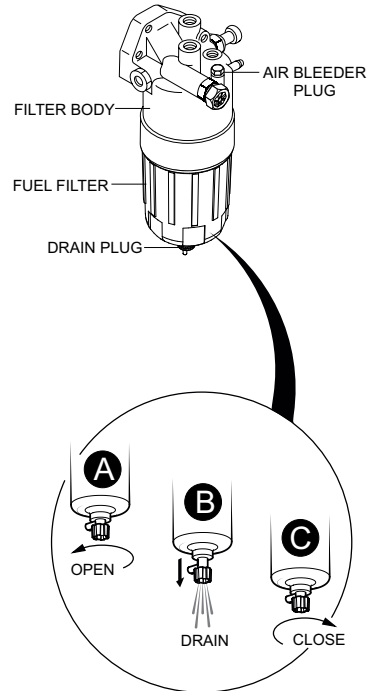

Figure 83. Draining Fuel Filter
Inspect the fuel filter **daily**. If the fuel filter (Figure 83) has collected a significant amount of water and sediment at the bottom of the cup, it should be drained off immediately.
1. Loosen the air bleeder plug (Figure 83) on the fuel filter body.